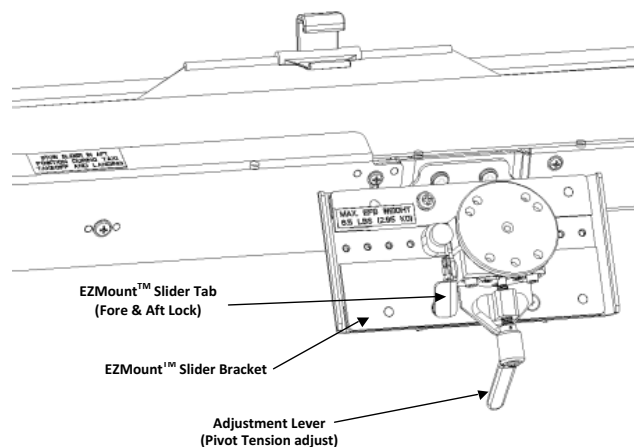

FIGURE 2
- » The EZMount Slider is attached to the mounting bracket (see Figure 2)